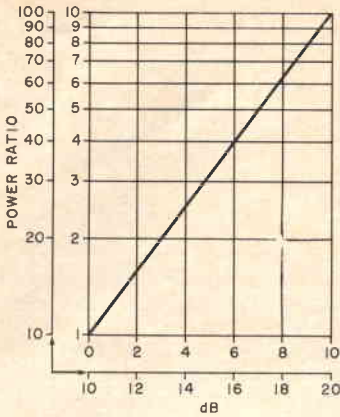

Fig. 2. Use this graph in converting power ratios to decibels. Scales are doubled over.
Noise figure is a dimensionless quantity and is often expressed in decibels. To convert from the linear quantity to dB, use the expression NF (in dB) = $10 \log_{10} (NF)$; or refer to the graph in Fig. 2. Unless you are skilled in the use of logarithmic quantities, it is wise to convert back to a linear quantity before making calculations.